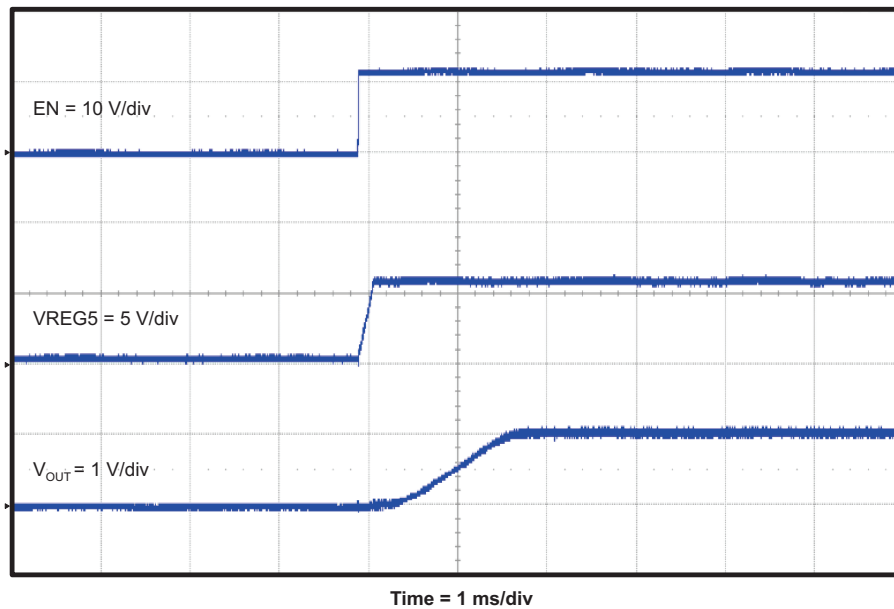

Figure 9. TPS54525EVM-608 Start-Up Relative to EN
The TPS54525EVM-608 start-up waveform relative to enable (EN) is shown in Figure 9.